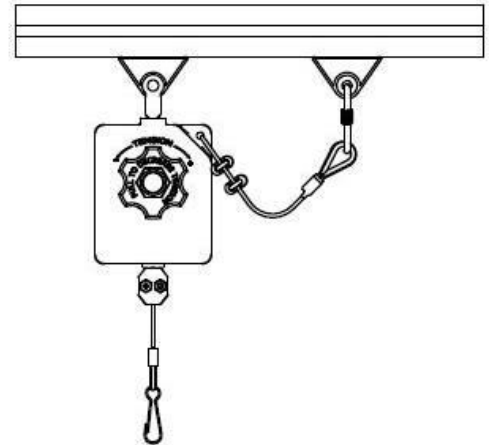

FIG. 03
- Attach other end of the secondary support [Safety Cable] to secondary support structure by means of Carabineer Hook and lock in place the carabineer nut – See FIG. 03.